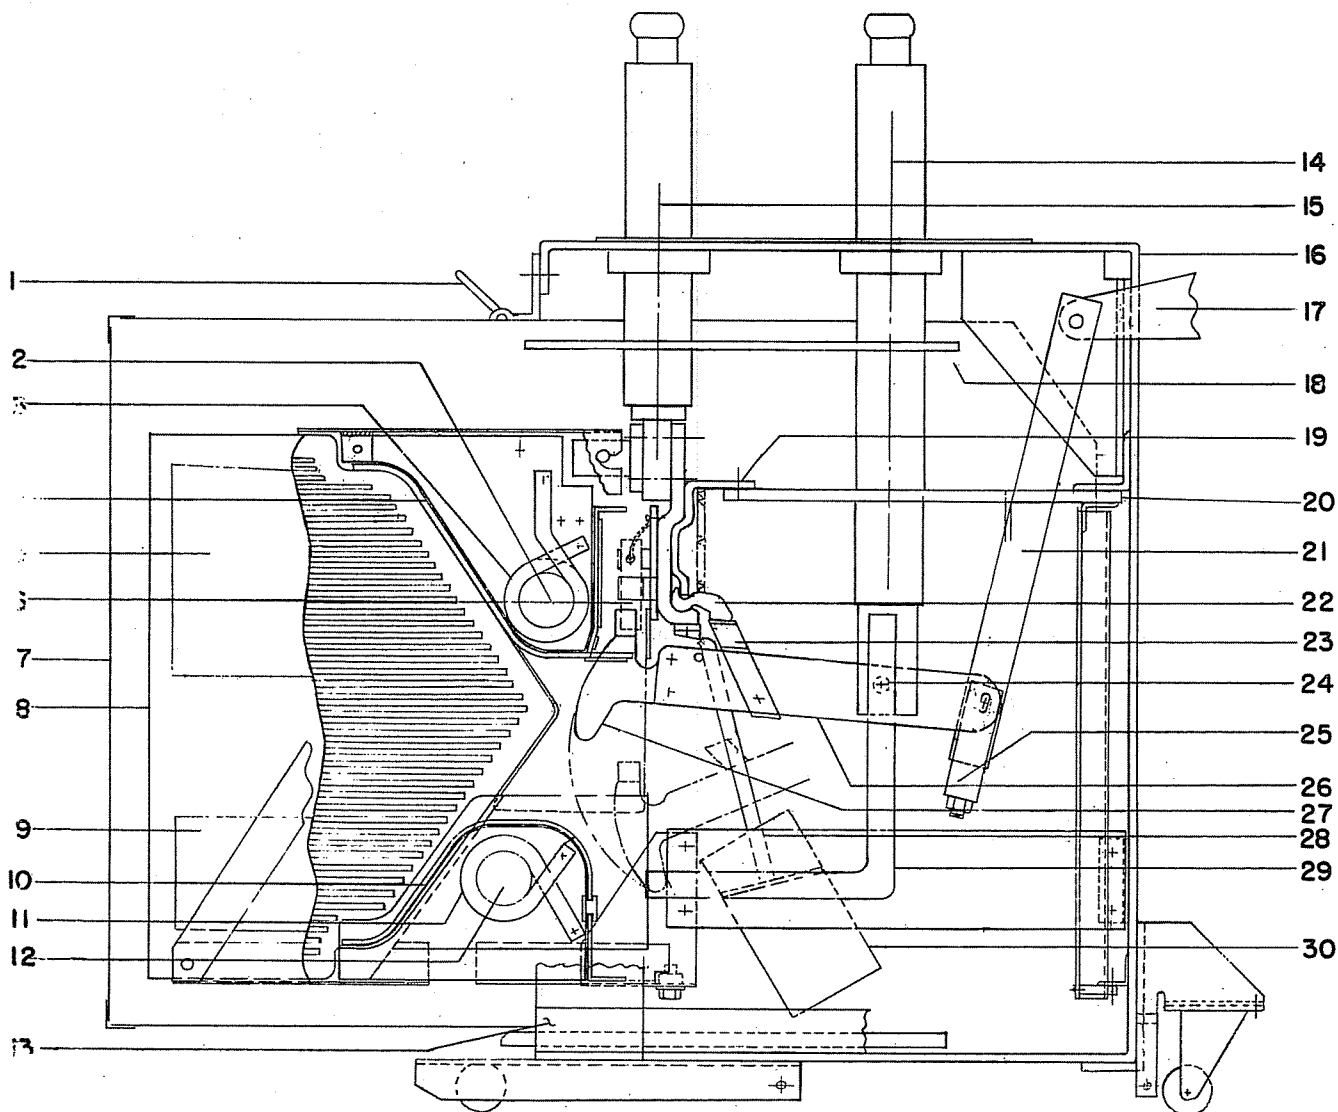

Figure 6 (0258C689) Cross Section of Breaker Pole Unit
As the breaker opens to interrupt a current, the arc first starts at the arcing contacts (6 & 27) Figure 6, transfers to the arc runner (4 & 10) and energizes the blow-out coils (3 & 11). This action introduces a magnetic field between the pole pieces (5 & 9) of the interrupter that forces the arc deeper into the arc chute (8). At the time the arcing con-